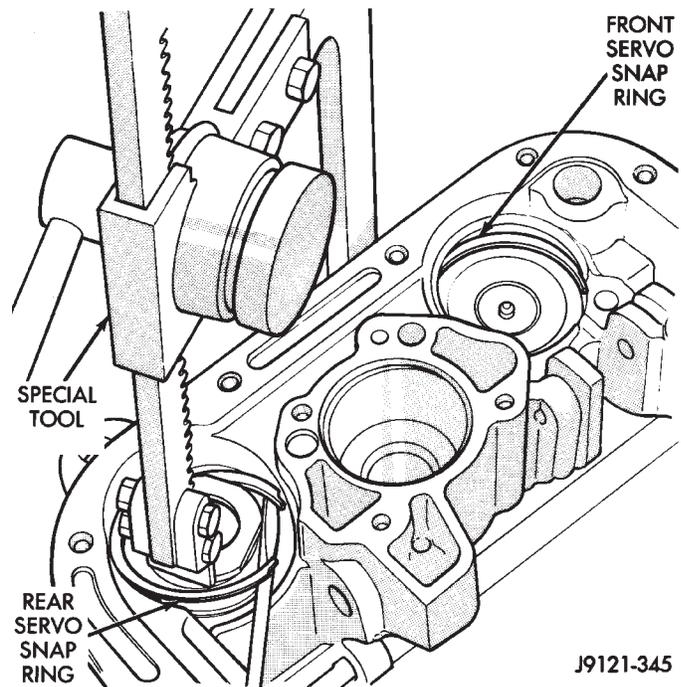

Fig. 130 Compressing Rear Servo Spring ASSEMBLY
- (36) Compress rear servo spring retainer about 1/16 inch with Valve Spring Compressor C-3422-B (Fig. 130).
- (37) Remove rear servo spring retainer snap ring. Then remove compressor tools and remove rear servo spring and piston.
- (38) Inspect transmission components.